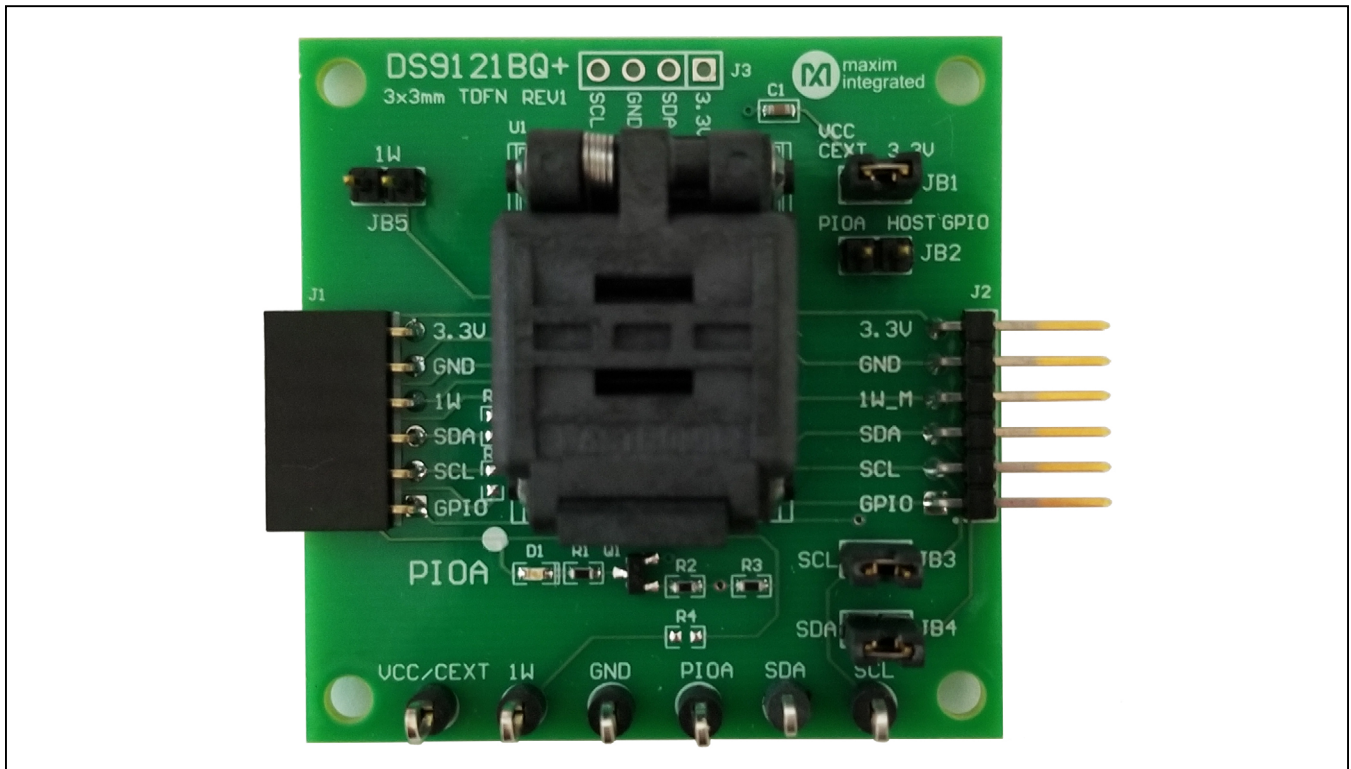

Figure 1. DS9121BQ Socket Board
- 7) Install the jumpers as described in Table 1 and reference Figure 1 for their locations.